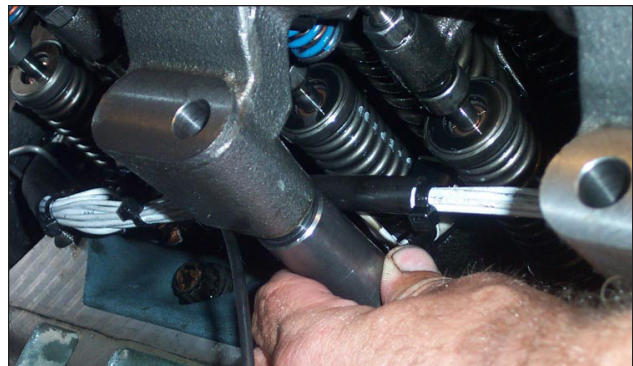

Fig 11
c. Connect 10 pin wiring socket to main engine harness and secure harness with plastic wire ties as necessary to brake spacer tubes (reference Fig 11 in Section 3 for image).
4. Position Jake Brake mounting spacer tubes under outer housing mounting legs. (See Fig. 11)